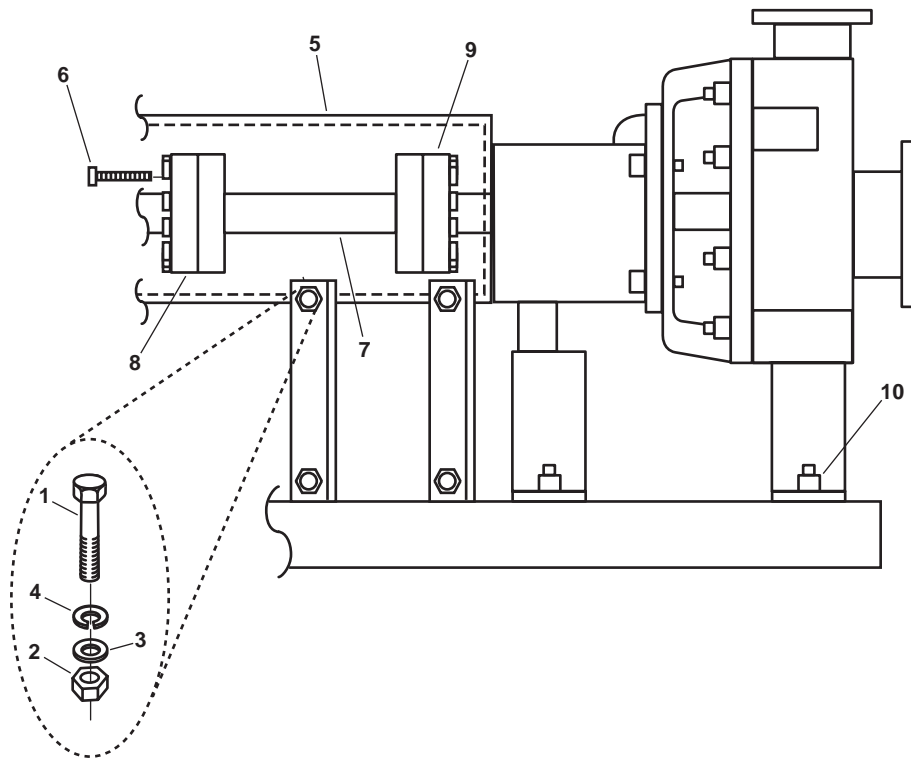

Figure 1. Firefighting Pump Alignment
1. Remove the four bolts (figure 1, item 1), four nuts (figure 1, item 2), four flat washers (figure 1, item 3), and four lockwashers (figure 1, item 4) that secure the shaft guard (figure 1, item 5).
2. Remove the shaft guard (figure 1, item 5).
3. Remove the 24 bolts (figure 1, item 6) that secure the pump drive shaft (figure 1, item 7) to the Power Take-Off (PTO) output flange (figure 1, item 8) and the pump input flange (figure 1, item 9).
4. Remove the pump drive shaft (figure 1, item 7).
5. Clean the mating faces of the PTO output flange (figure 1, item 8) and the pump input flange (figure 1, item 9) with a wire brush, and ensure that both surfaces are clean, smooth, and free of corrosion.
6. Verify that the four pump mounting bolts (figure 1, item 10) are tight.